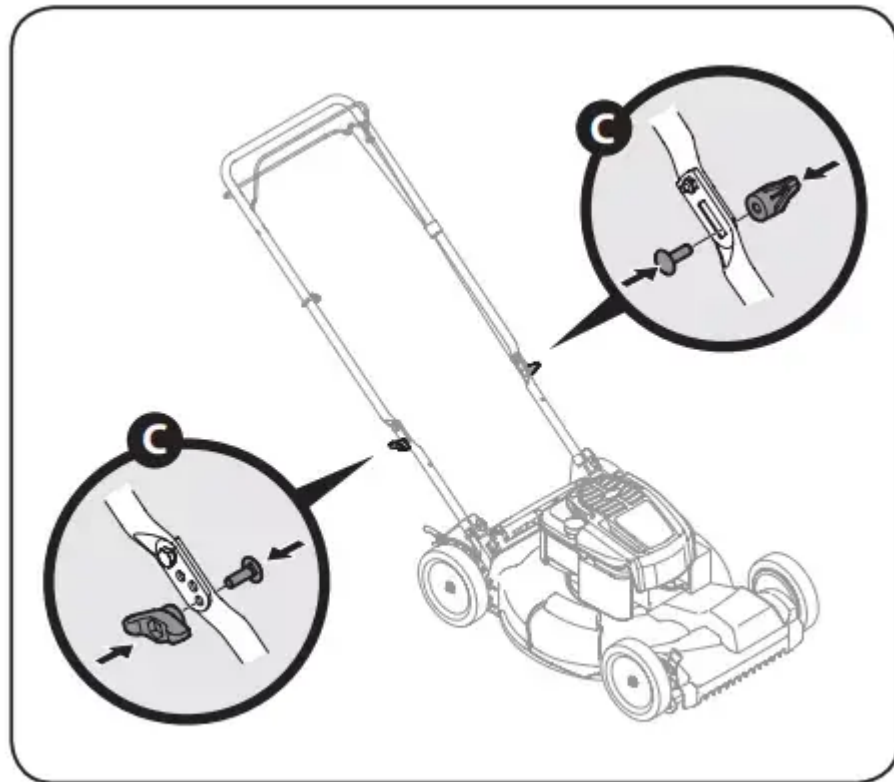

Figure 3-5
3. Reattach wing nuts and carriage bolts removed earlier into lower holes of handle as shown in Fig. 3-5.